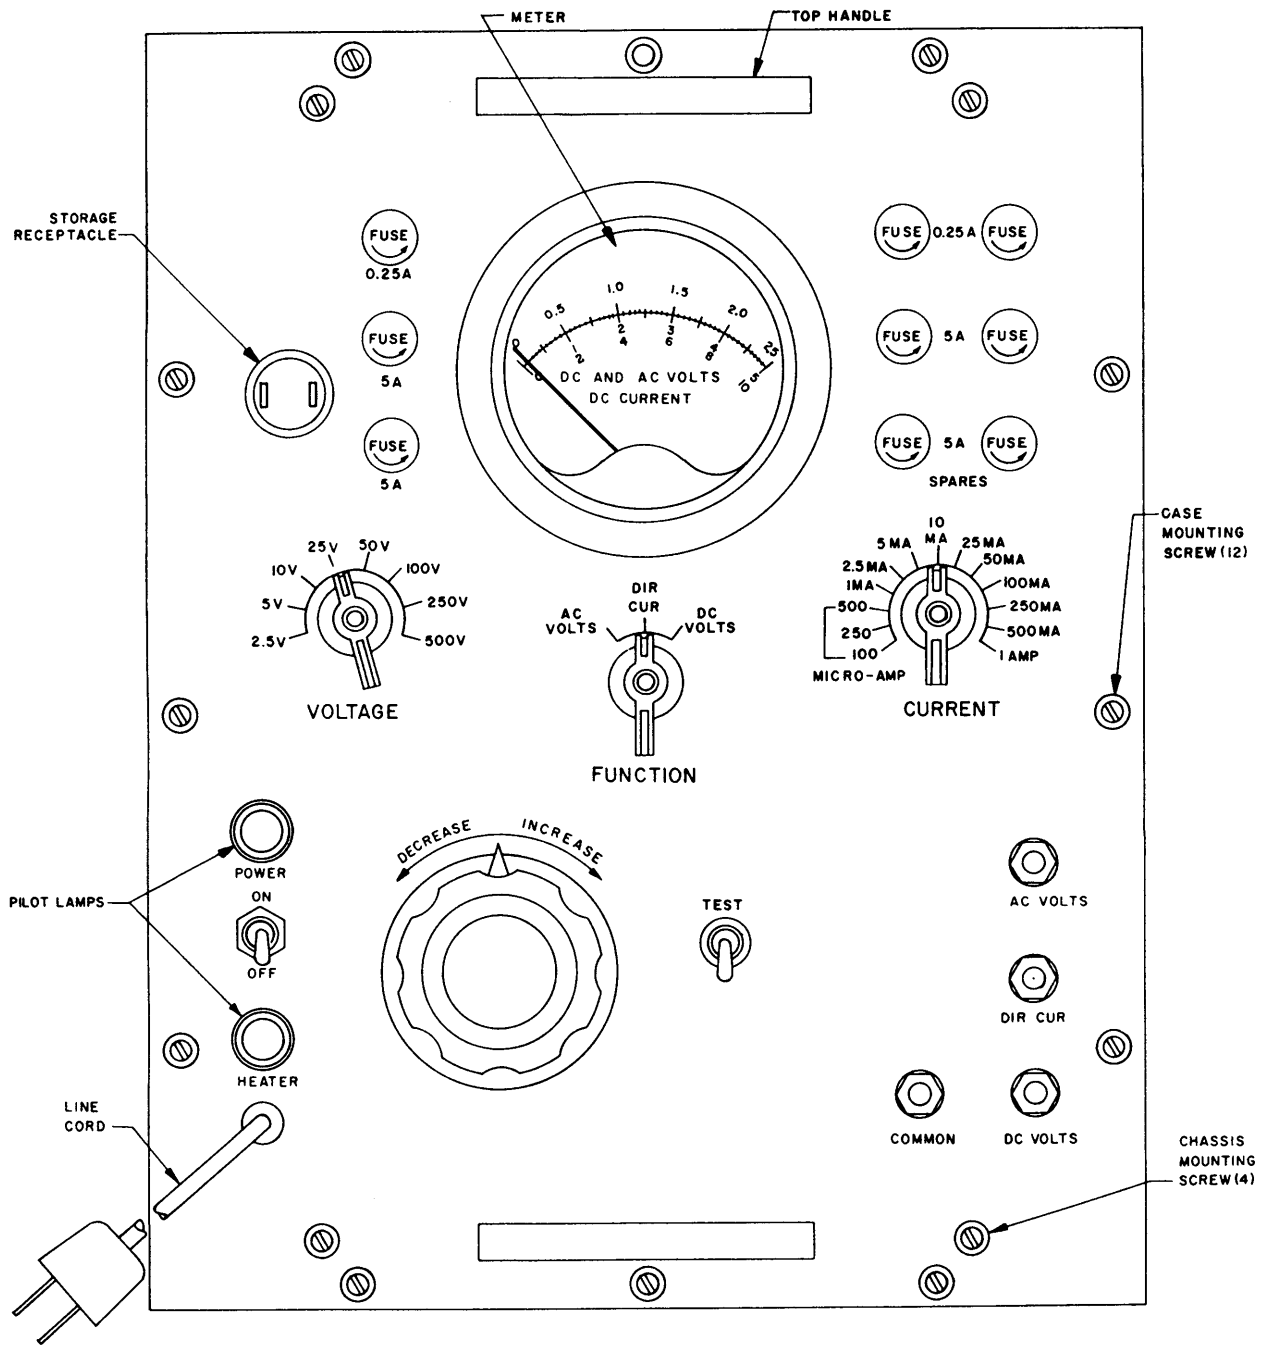

Figure 3. Tester, front panel showing controls, indicators, and jacks.
c. Check to see that the proper fuses are inserted in the fuse holders (fig. 3) on the front panel of the tester.
11. Controls, Indicators, and Jacks (fig. 3)
- (1) Connect the line cord (fig. 3) to a power source (par. 4).
- (2) Plug the short test prod of the black test lead into the COMMON jack.
- (3) Plug the short test prod of the red test lead into the AC VOLTS jack.
- (4) Determine the range required for full-scale deflection of the meter under test.
- (1) Connect the line cord (fig. 3) to a power source.
- (3) Plug the short test prod of the red test lead into the DC VOLTS jack.
- (4) Determine the range required for full-scale deflection of the meter under test (par. 12a(4)).
- (5) Rotate the FUNCTION switch to DC VOLTS and the VOLTAGE range switch to the desired voltage range.
- (6) Follow the procedures given in paragraph 12a(6) through (8). Be sure to observe polarity when connecting the test leads to the meter under test.
- (1) Connect the line cord (fig. 3.) to a power source (par. 4).
- (3) Plug the short test prod of the red test lead into the DIR CUR jack.
- (5) Rotate the FUNCTION switch to DIR CUR, the CURRENT range switch to the desired current range, and the DECREASE-INCREASE control to the extreme counterclockwise (zero) position.
- (6) Place the ON-OFF switch in the ON position.
- (7) Connect the test leads to the meter under test. Be sure to observe polarity.
- (1) Connect the line cord and the test leads (par. 12a(1) through (3)).
- (2) Determine the output voltage required for the operation.
- (3) Rotate the FUNCTION switch (fig. 3) to AC VOLTS and the VOLTAGE range switch to the desired voltage range.
- (4) Place the ON-OFF switch in the ON position.
- (5) Adjust the DECREASE-INCREASE control until the meter on the tester indicates the desired voltage.
- (6) Connect the test leads to the load, raise the TEST switch, and adjust the DECREASE-INCREASE control until the meter on the tester indicates the desired value.
- (7) Perform the required operation on the load.